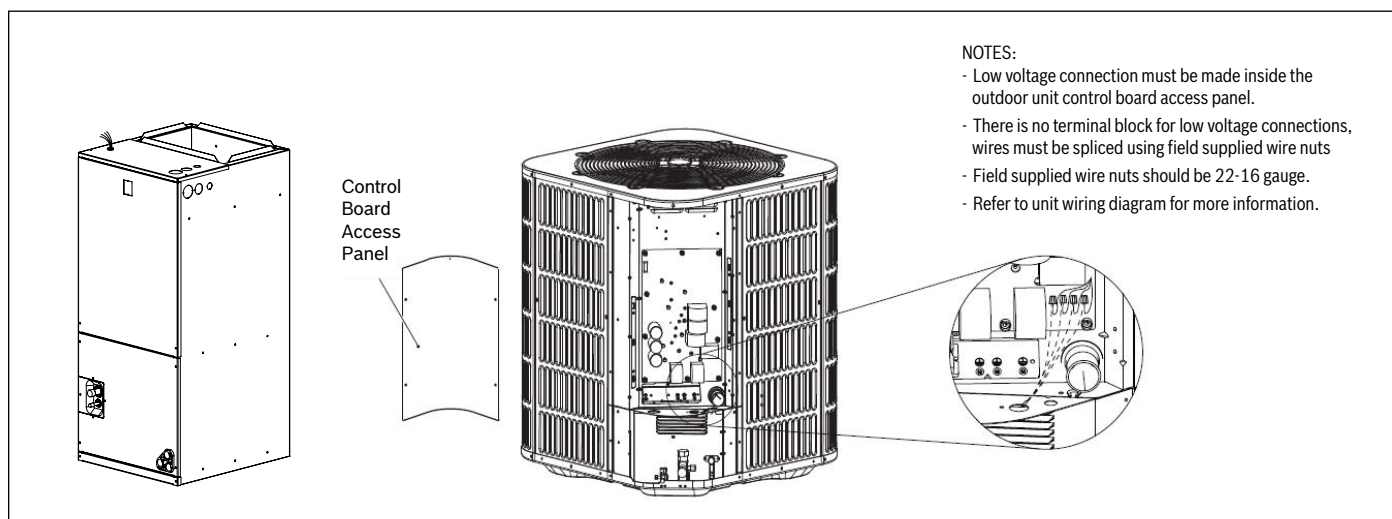

Figure 23 Low Voltage Unit Connections
1. Remove Service Valve Cap (Fig. 23).
2. Fully insert hex wrench into the stem and back out counterclockwise until valve stem just touches the rolled edge (approximately five (5) turns.)